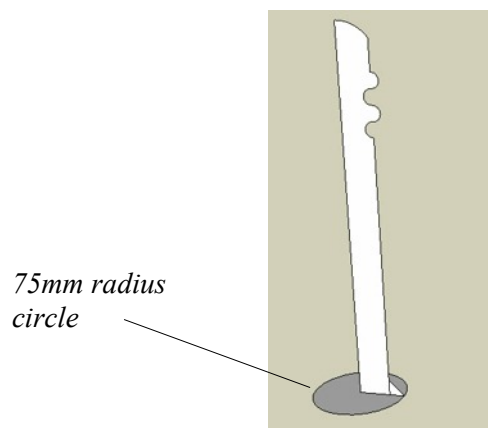

Figure 82. The guides and box deleted and the circle drawn at the base
- Draw a circle at the base of the bollard profile with a radius of 75mm as shown in Figure 82.